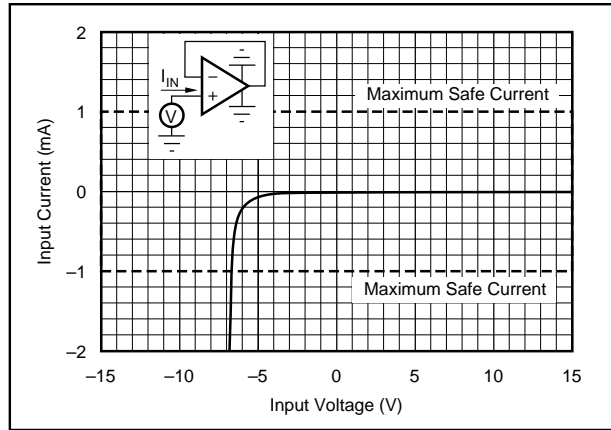

FIGURE 2. Input Current vs Input Voltage with  $\pm V_{CC}$  Pins Grounded.
NOTES: (1) Packages must be derated based on  $\theta_{JC} = 150^\circ\text{C/W}$  or  $\theta_{JA} = 300^\circ\text{C/W}$ . (2) For supply voltages less than  $\pm 18\text{VDC}$ , the absolute maximum input voltage is equal to  $+18\text{V} > V_{IN} > -V_{CC} - 6\text{V}$ . See Figure 2. (3) Short circuit may be to power supply common only. Rating applies to +25°C ambient. Observe dissipation limit and  $T_J$ .